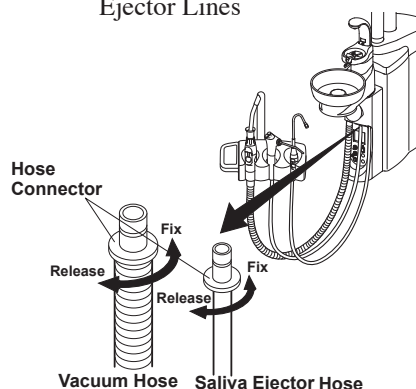

Fig.5-9 Vacuum and Saliva Ejector Hose
- 1-3. Vacuum hose and saliva ejector hose are detachable from the cuspidor unit.(Fig.5-9) Turn the hose connector 90° counterclockwise the hose can be removed from the cuspidor unit. Insert the hose connector and turn through 90° clockwise to reconnect.